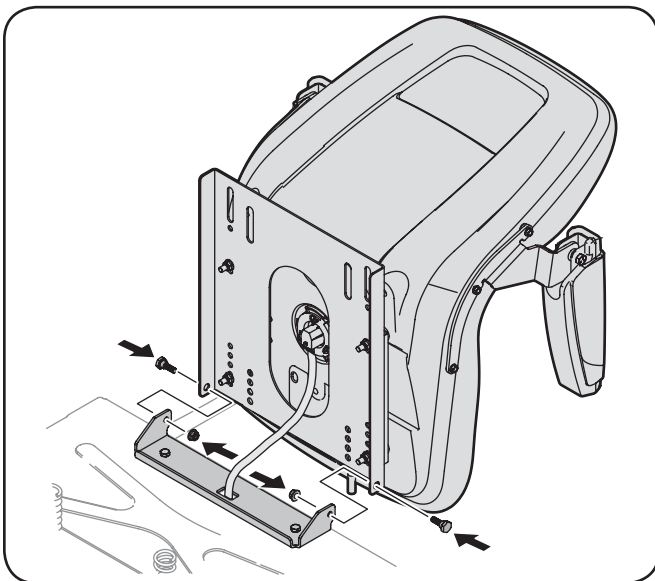

Figure 3-4
3. Rotate the seat into position and secure the seat into place with the previously removed shoulder screws and flange lock nuts. Be careful not to crimp or damage the wire harness while installing the seat. See Figure 3-4.